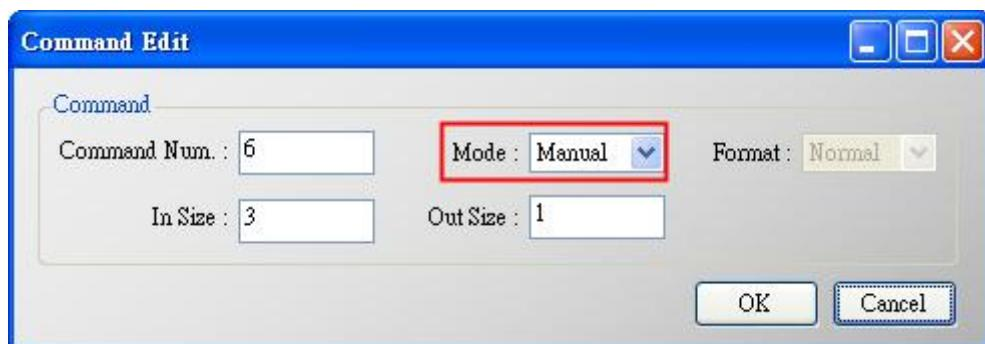

Figure 12-1 : Add UserCMD(6)
- (1) Run “HG\_Tool” and connect to I-9720.
- (2) Open the “Device Configuration” page.
- (3) Add “UserCMD(6)” and choose “Manual” option in “Mode” field. (Figure 12-1)